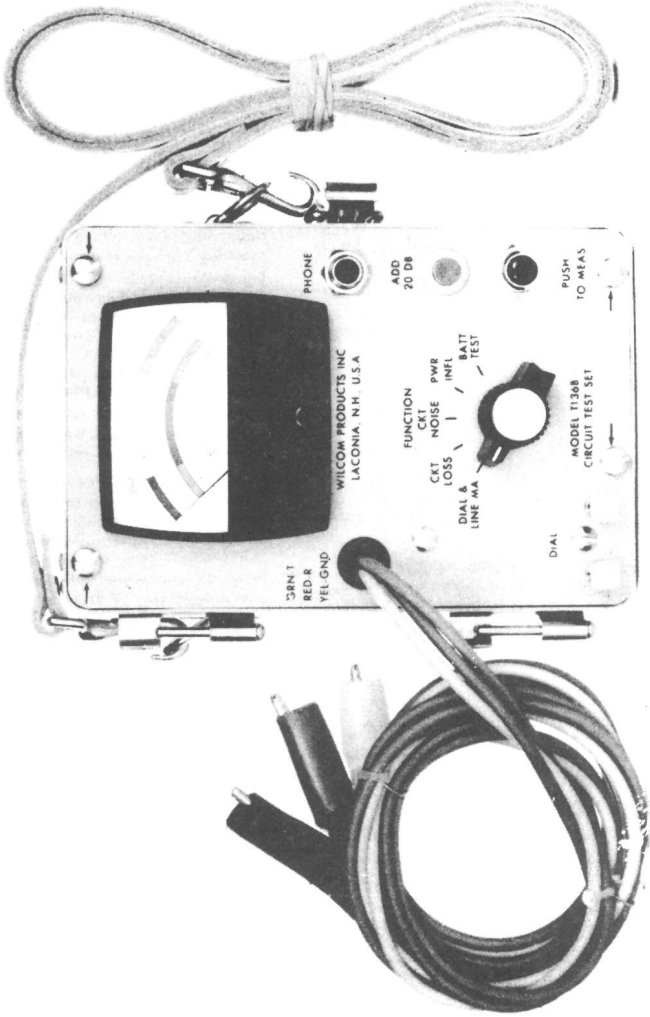

FIGURE 1.
2.01 The operation of the test set is controlled by a single function switch located in the center of the front panel. See Figure 1.